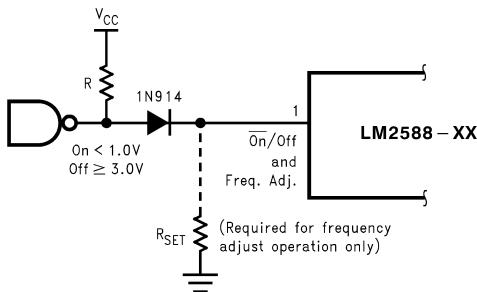

Figure 20. Shutdown Operation
- (1) All room temperature limits are 100% production tested, and all limits at temperature extremes are specified via correlation using standard Statistical Quality Control (SQC) methods.
- (2) To measure this parameter, the feedback voltage is set to a high value, depending on the output version of the device, to force the error amplifier output low and the switch off.
- (3) To measure this parameter, the feedback voltage is set to a low value, depending on the output version of the device, to force the error amplifier output high and the switch on.
- (4) To measure the worst-case error amplifier output current, the LM2588 is tested with the feedback voltage set to its low value (specified in Note 3 under the Electrical Characteristics: All Output Voltage Versions ^{\(1\)} table) and at its high value (specified in Note 2 under the Electrical Characteristics: All Output Voltage Versions ^{\(1\)} table).
- (5) When testing the minimum value, do not sink current from this pin—isolate it with a diode. If current is drawn from this pin, the frequency adjust circuit will begin operation (see Figure 20).
A feature of the LM2588 is its ability to be shut down using the $\overline{\text{ON}}$ /OFF pin (pin 1). This feature conserves input power by turning off the device when it is not in use. For proper operation, an isolation diode is required (as shown in Figure 20).
The device will shut down when 3 V or greater is applied on the ON /OFF pin, sourcing current into pin 1. In shutdown mode, the device draws typically 56 μ A of supply current (16 μ A to V_{IN} and 40 μ A to the ON /OFF pin). To turn the device back on, leave pin 1 floating, using an (isolation) diode, as shown in Figure 20 (for normal operation, do not source or sink current to or from this pin—see the next section).
The switching frequency of the LM2588 can be adjusted with the use of an external resistor. This feature allows the user to optimize the size of the magnetics and the output capacitor(s) by tailoring the operating frequency. A resistor connected from pin 1 (the Freq. Adj. pin) to ground will set the switching frequency from 100 kHz to 200 kHz (maximum). As shown in Figure 20, the pin can be used to adjust the frequency while still providing the shutdown function. A curve in the Performance Characteristics Section graphs the resistor value to the corresponding switching frequency. The table in Table 1 shows resistor values corresponding to commonly used frequencies.